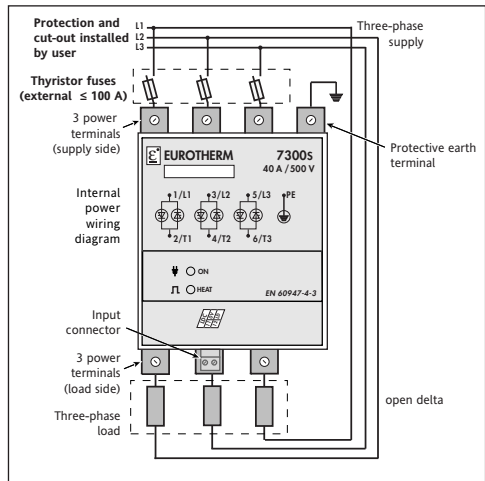

Figure 2-10 Connecting a three-phase load using Open Delta configuration
- open delta (6 connection wires, code 6D), figure 2-10.